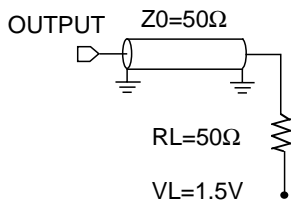
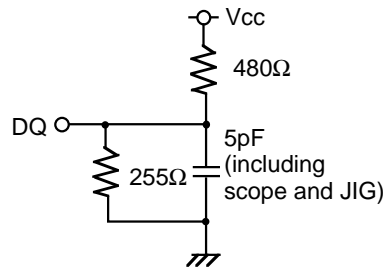

Fig.1 Output load
Fig.2 Output load for t_{en}, t_{dis}
Output loads Fig1, Fig2
5. Transition is measured $\pm 500\text{mV}$ from steady state voltage with specified loading in Figure 2.